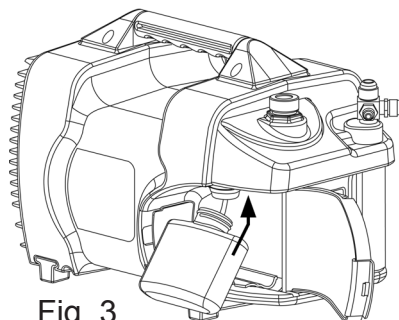

Fig. 3
6. Place the oil suction tube into the new TEZOM and insert the top of the TEZOM first to make sure the oil suction tube remains inside the cartridge. (Fig. 3)